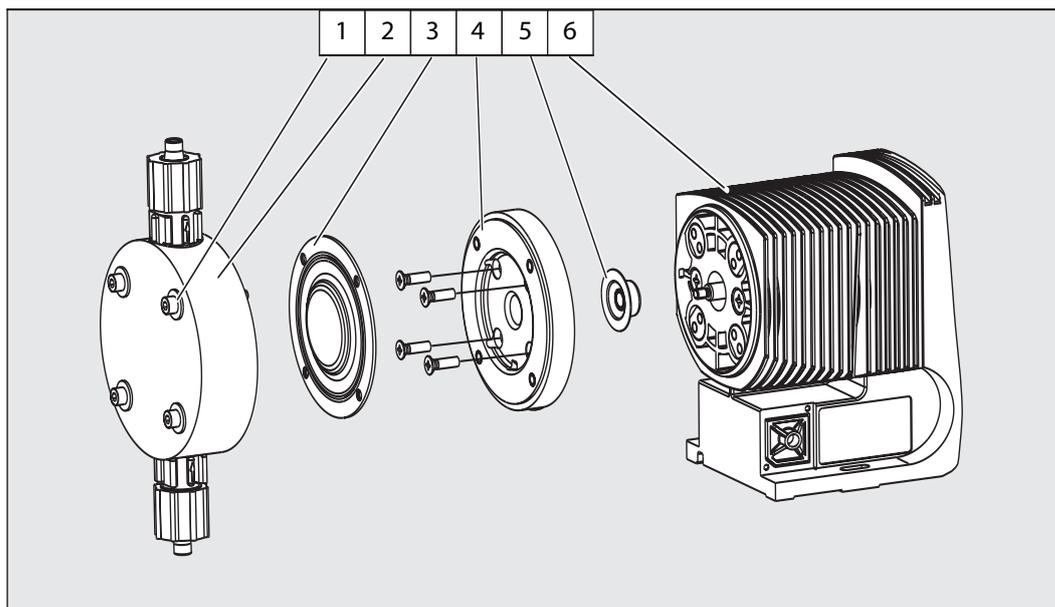

Fig. 30
- ▶ Remove the metering head (2) with the screw (1) from the pump (see fig. 30). Remount the metering head (2) with the screws (1).
- ▶ Hold the housing (6) in one hand and with the other hand, clamp the diaphragm (3) between the liquid end (2) and the top plate (4); release the diaphragm (3) from the drive spindle with a light anti-clockwise turn of the liquid end (2) and top plate (4).
- ▶ Remove the liquid end (2) with screws (1) from of the diaphragm and unscrew completely from the drive spindle.
- ▶ Remove the top plate (4) from the housing (6).
- ▶ Check the condition of the safety diaphragm (5) and replace it necessary.
- ▶ Push the safety diaphragm (5) only as far onto the drive axis until it lies flat on the pump housing (6) – no further!
- ▶ Screw the new diaphragm (3) carefully up to the stop on the drive axis – this must be exact to ensure correct metering!
- ▶ When the pump is running, turn the diaphragm (3) slowly in a clockwise direction until the four holes in the diaphragm are flush with those on the pump housing (6).
- ▶ Hold the diaphragm (3) in this position, set the stroke length to 0 % and stop the pump.
- ▶ Screw the diaphragm (3) tight once more.